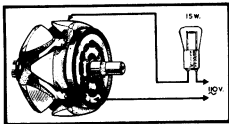

Fig.4 - Rotor winding insulation test
- Test for defective insulation between one of the slip-rings and one of the rotor poles using a 110 volt a.c. mains supply and a 15 watt test lamp connected in the lead to the rotor (Fig.4). If the lamp lights the coil is earthing and a replacement rotor/slipring assembly must be fitted.